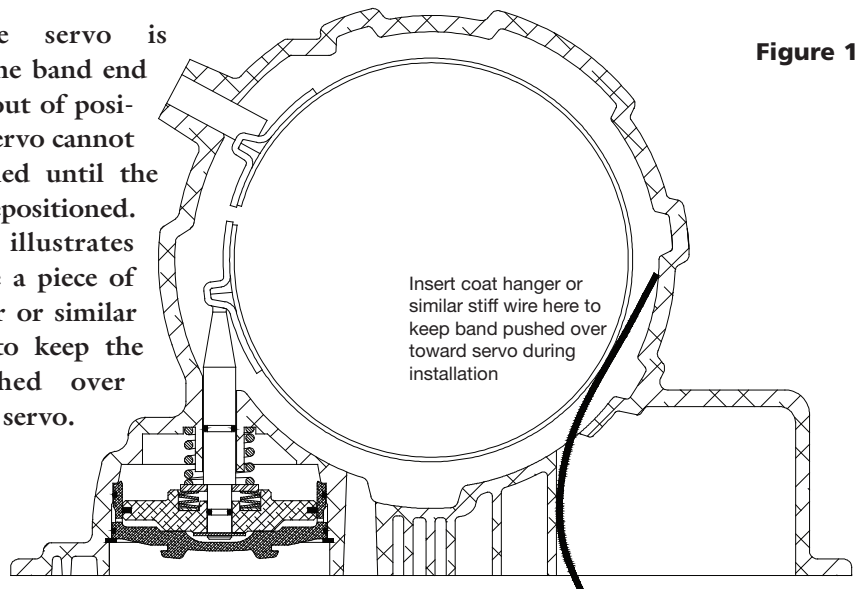

Figure 1
- When the servo is removed, the band end will move out of position. The servo cannot be reinstalled until the band is repositioned. Figure 1 illustrates how to use a piece of coat hanger or similar stiff wire to keep the band pushed over toward the servo.
**NOTE:** Ensure the pin properly engages the band by positioning the band as shown in Figure 1.